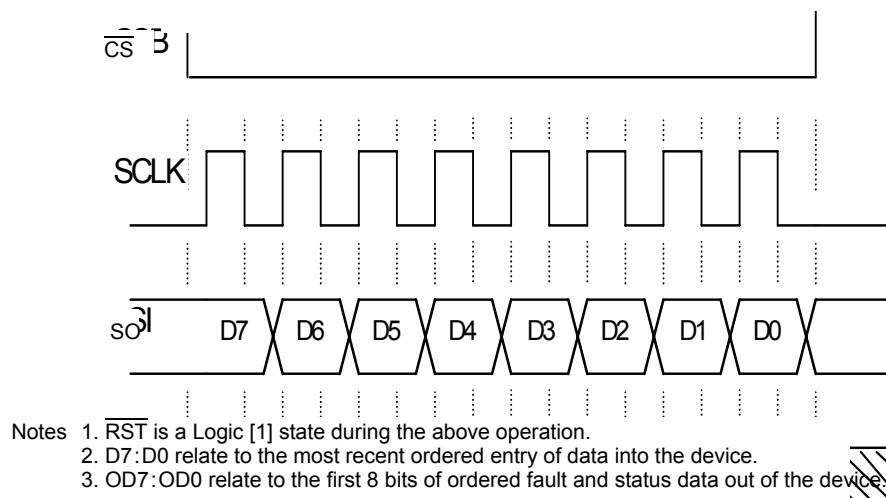
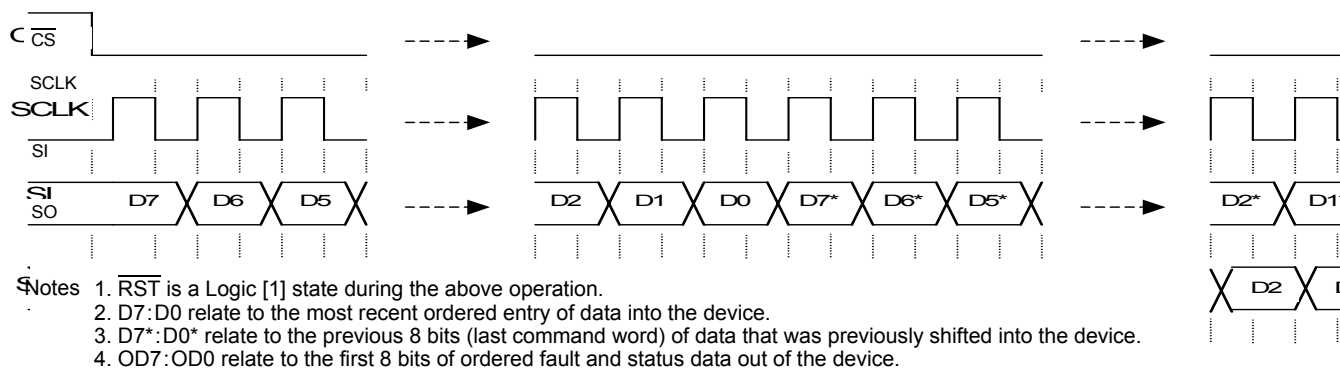

Figure 10. Single 8-Bit Word SPI Communication
Figure 11. Multiple 8-Bit Word SPI Communication
The SCLK pin clocks the internal shift registers of the 33982B device. The serial input pin (SI) accepts data into the input shift register on the falling edge of the SCLK signal while the serial output pin (SO) shifts data information out of the SO line driver on the rising edge of the SCLK signal. It is important that the SCLK pin be in a logic LOW state whenever $\overline{CS}$ makes any transition. For this reason, it is recommended that the SCLK pin be in a Logic [0] state whenever the device is not accessed ($\overline{CS}$ Logic [1] state). SCLK has an active internal pull-down, I_{DWN} . When $\overline{CS}$ is Logic [1], signals at the SCLK and SI pins are ignored and SO is tri-stated (high-impedance). (See Figure 10 and Figure 11.)